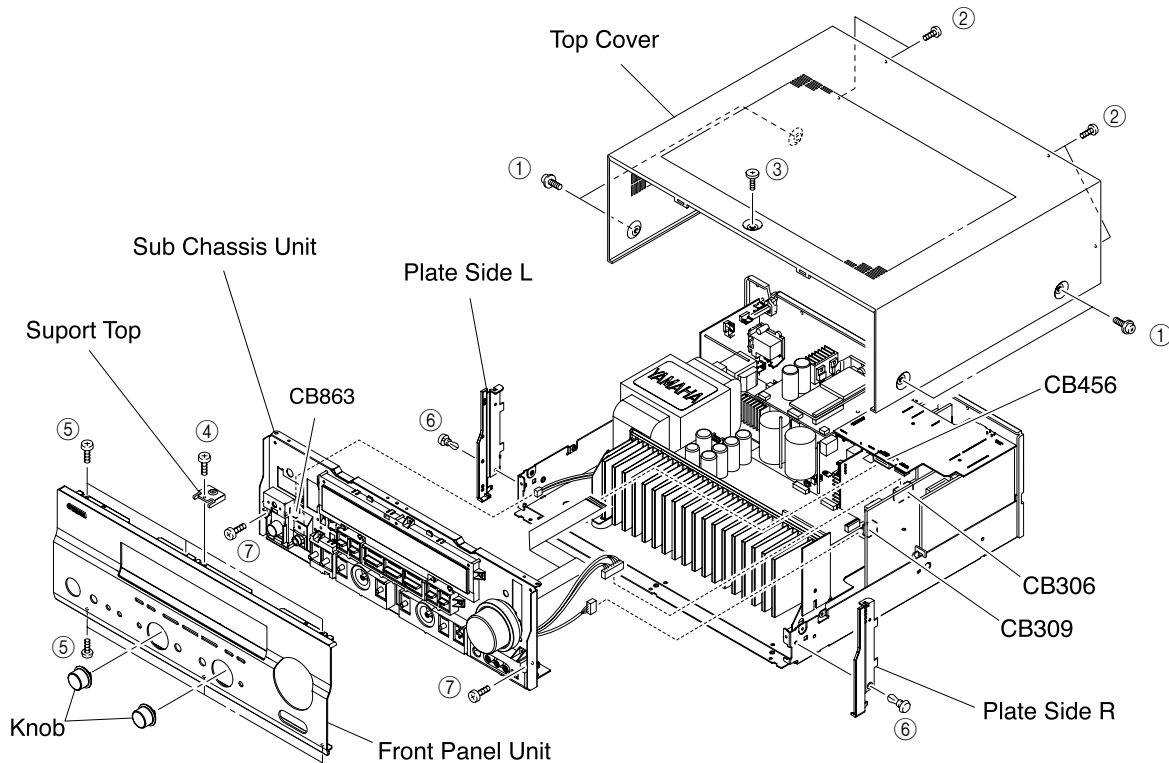

Fig. 1
- a. Remove 4 screws (①), 4 screws (②) and 1 screws (③). (Fig. 1)
- b. Slide the Top Cover rearward to remove it. (Fig. 1)
- a. Remove 2 Knobs. (Fig. 1)
- b. Remove 1 screw (④) and then remove the Support Top. (Fig. 1)
- c. Remove 6 screws (⑤) and then remove the Front Panel Unit. (Fig. 1)
- a. Remove 2 push rivets (⑥). (Fig. 1)
- b. Remove the Plate Side L/R. (Fig. 1)
- a. Remove 2 screws (⑦) and then slide the Sub Chassis Unit forward. (Fig. 1)
- c. Remove CB306, CB309, CB456 and CB863 and then remove the Sub Chassis Unit. (Fig. 1)